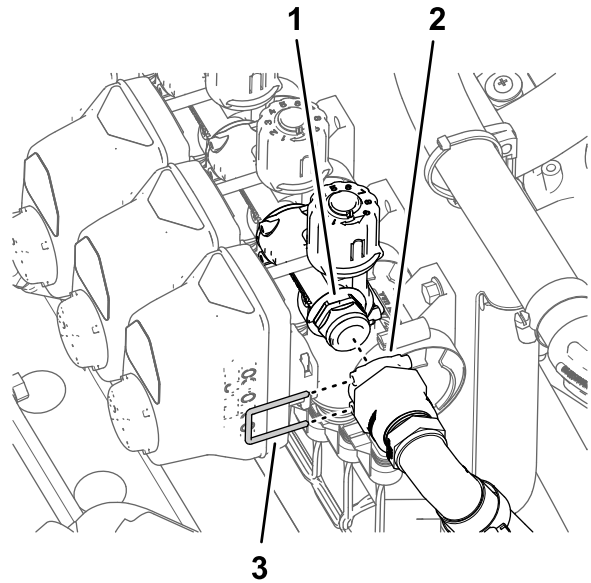

Figure 111
- Assemble the quick-connect fitting of the bypass hose to the quick disconnect fitting at the bypass valve at nozzle valve 10 (Figure 111).
- Secure the quick disconnect fittings for the bypass hose and the bypass valve with the retainer (Figure 111).